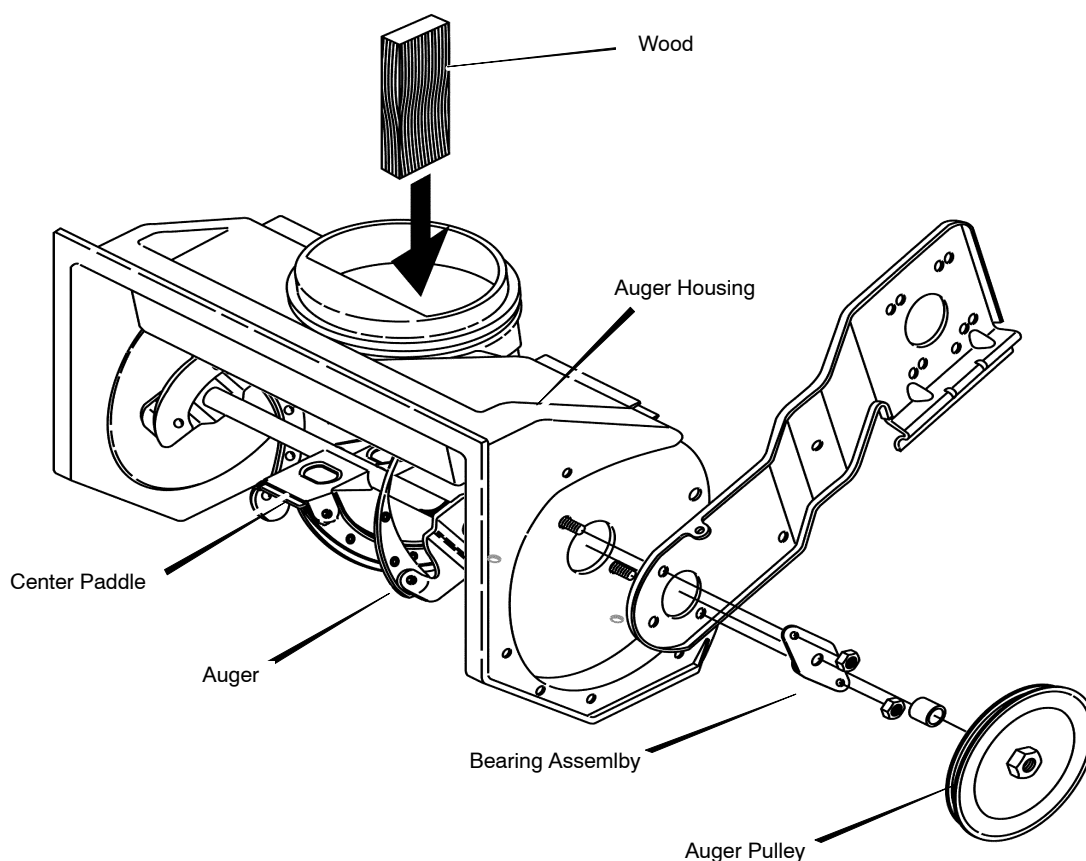

Figure 18
3. Remove the **auger pulley** from the auger shaft (threads are left hand; turn clockwise to remove). (See Figure 18).